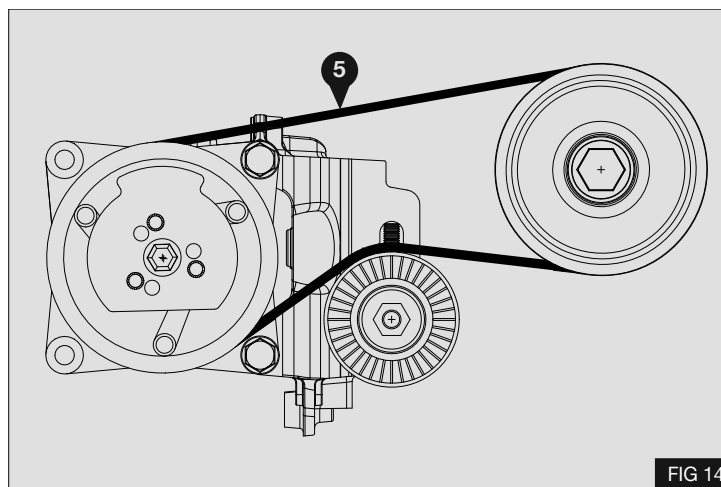

FIG 14
1. Install the supplied drive belt (5) as shown opposite – Fig 14